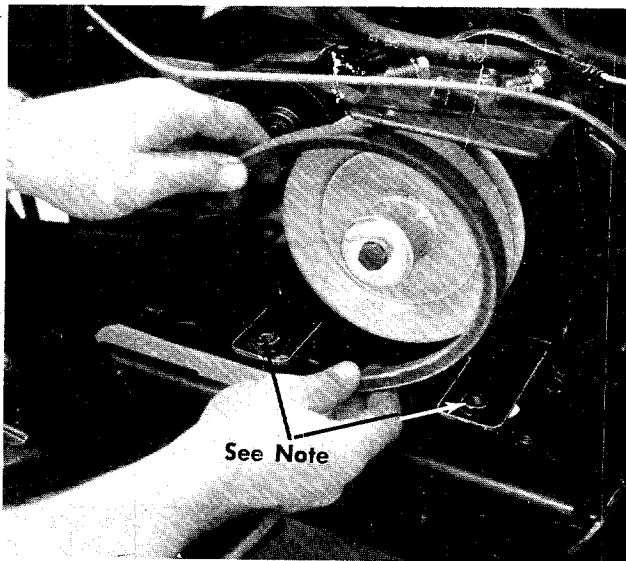

FIGURE 10 ATTACHING THE DECK BELT
- j. Attach the deck belt to the engine PULLEY. See figure 10.